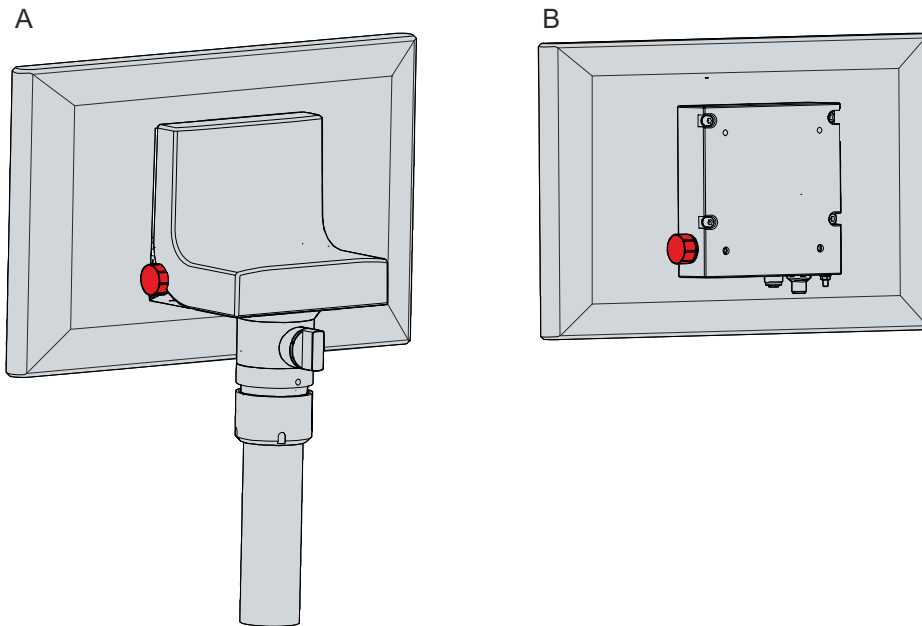

Fig. 16: Optional USB interface
If you have ordered the device with a Beckhoff mounting arm adapter, the additional USB interface is located on the adapter. On a device without a mounting arm adapter, the interface is located at the side of the connection block. Fig. 16 shows the interface on the mounting arm adapter (A) and on the connection block (B).